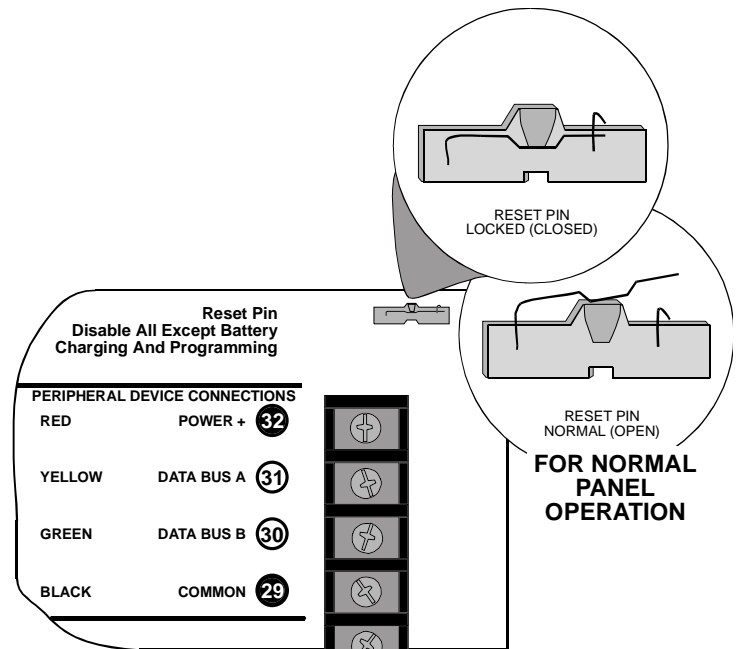

Figure 20: Reset Pin
1. **Lock Reset Pin:** See *Figure 20*.